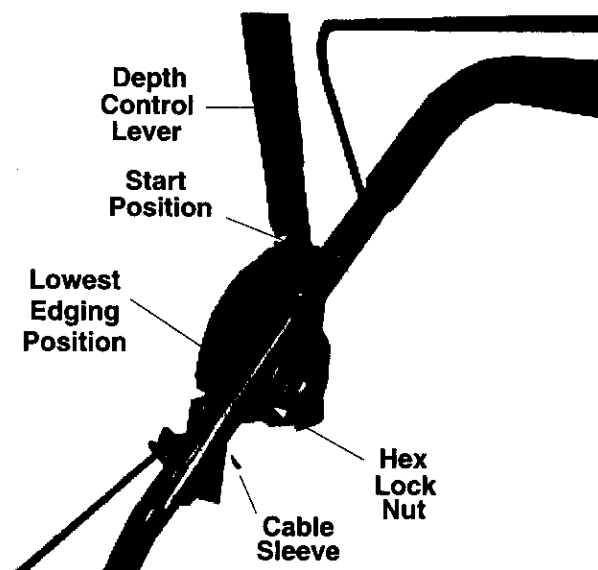

Figure 5
2. Move the blade depth control handle back to the start position (as far as it will go), and place it in the last notch. See Figure 5.